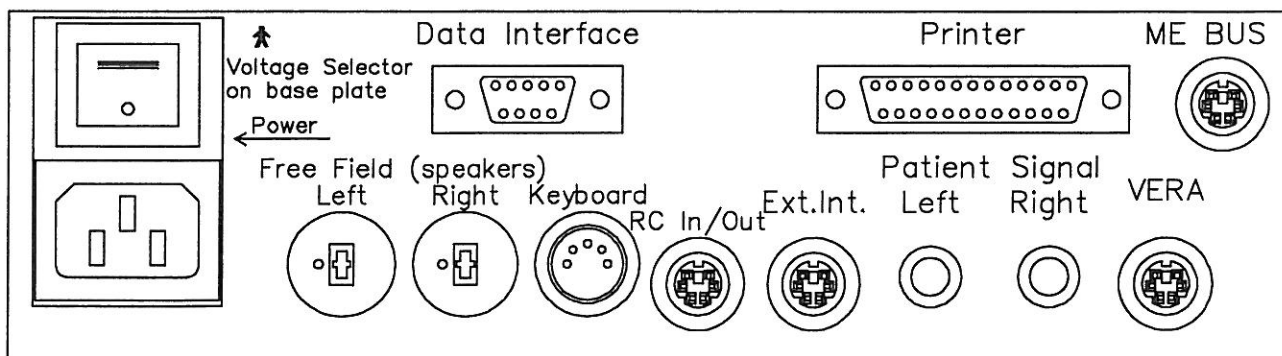

Fig. 2.1 ORBITER 922 Connection Panel (left).
Connect the headset, insert phone(s), patient response hand-switch(es), speakers, bone conductor and, if required, the optional PC keyboard, CD player and personal computer (PC) to their respective connectors in the Connection Panel located on the rear of the instrument (see Figs. 2.1 and 2.2 as well as the fold-out diagram at the back of this manual).